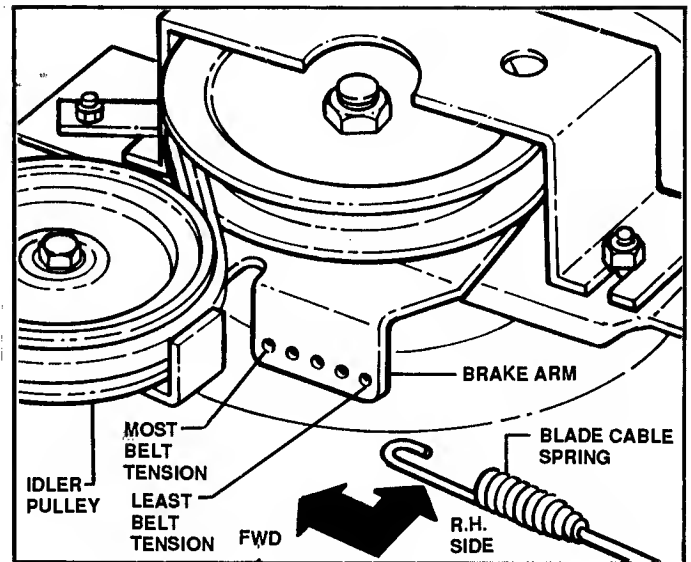

FIGURE 17
3. Remove BLADE CABLE SPRING from hole in BRAKE ARM. Reattach spring in next hole forward. See Figure 17.